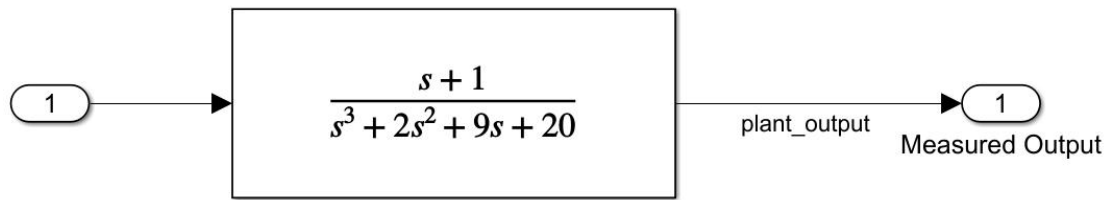

Figure 7: The plant
2. Replace a plant for a given TF. The plant is shown on figure 7.